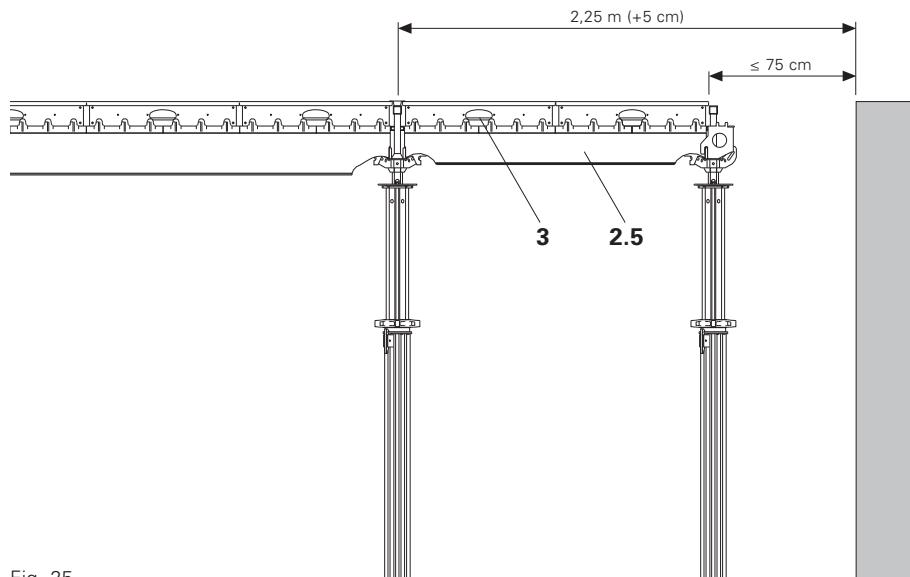

Fig. 25
1. Continue forming with prop, Compensation Beam SLT 150 (2.5) and Panel SDP (3) as in the standard field. (Fig. 25)
- Prophead SSK (6) or
- Drophead SFK (1) and
- Combihead SCK (7)
- Edge Beam SRT (9)
- End Support SSL (10)
- Filler Timber SPH (11)
- square-shaped timbers (12) are securely nailed before elements are assembled.